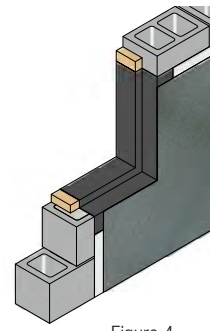

Figure 4
5. Allow MasterSeal AWB 900 to skin before applying MasterSeal AWB to the wall. Lap MasterSeal AWB a minimum of 2 inches onto MasterSeal AWB 900, creating a continuous, monolithic air/water-resistive barrier. (See Figures 4 & 8).